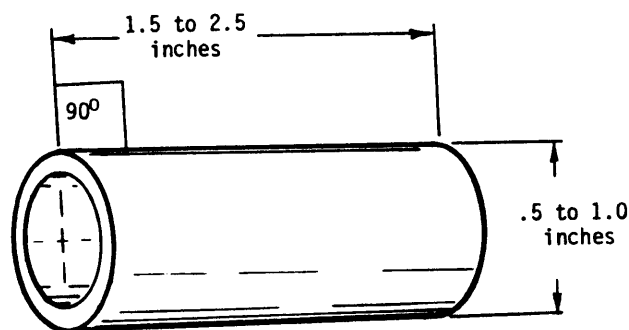

Figure 2. Tube for reducing parallax error.
- A. Replace the clear graticule with the appropriate CRT scale for the given instrument's option. Use the 337-2537-05 scale for an Option 1 product. Use the 337-2537-01 for all others. Place the silk-screened side of the scale against the CRT faceplate to reduce parallax. As a further aide to reducing parallax error, the calibrator may wish to sight through the center of a small plastic or cardboard tube held firmly against the faceplate or scale. Such a tube may be found as the core of a small spool of printer paper. The core of a Tek 31 thermal printer paper spool (006-1775-00) may be used. Any tube similar to that depicted in Figure 2 will suffice provided the end is cut perpendicular to the axis.
The instructions for modifying the high voltage supply boards in "634 Performance Modification #43894," Wizards Workshop issue 11-18 are in error. The second step should describe the tooling hole as being near lead 7 of T410, not near lead 1 as printed. Note also that figure 2 misrepresents the foil pad for lead 7 as being square instead of round as the rest.
In addition, the metal oxide varistor, RV437 is mistakenly referred to as "RV137" in the first step of the installation instructions and both figures 2 and 3.